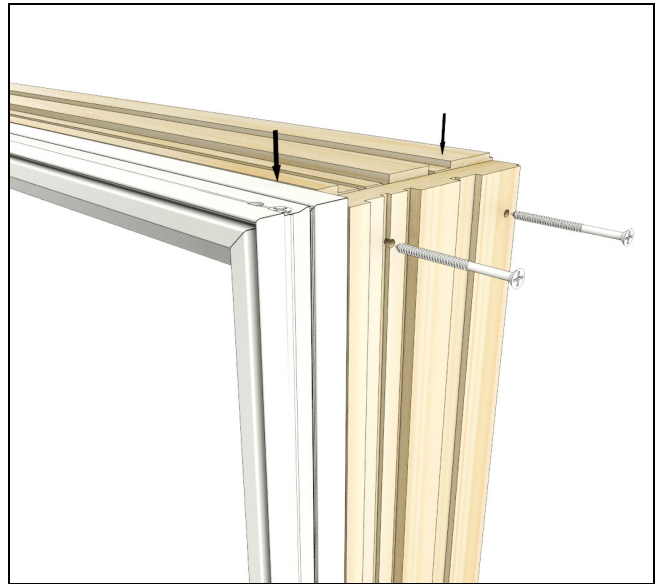

Figure 6
3. Use two #7 x 2" screws to screw through the pre-drilled holes located on the side of the jamb wood into the head jamb wood. Make sure you are pushing the head jamb wood down towards the jamb wood to fully seat it prior to screwing. See Figure 6.